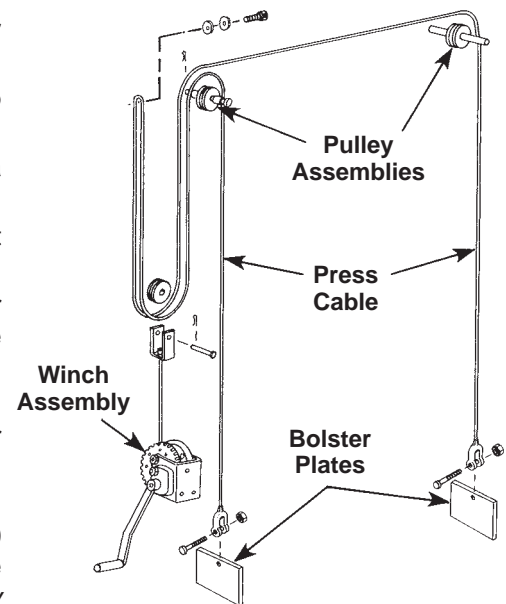

FIGURE 1
IMPORTANT: Make sure the cable attachment holes in the bolster plates are facing up. See Figure 1, to the right.
2. Attach a foot angle (13) to each press upright (10 and 23) using cap screws (20), washers (19), and hex nuts (8).
3. Attach the spacer angle (14) to the right-hand press upright (10) with a cap screw (20).
4. Slide the upright into the end of the bolster assembly (12) until the upright is tight against the bolster plate.
5. Slide the left-hand press upright (23) into the other end of the bolster assembly (12) until it is tight against the bolster plate. Then attach the upright to the angle spacer with a cap screw (20).
6. Mount one of the upper bolsters (1) to the top of each upright (10 and 23) using cap screws (7) and hex nuts (5). The holes for the cylinder mounting plate (11) must be facing down.
7. Install two pulley axles (4) and pulleys (3). The axles each pass through the exposed uppermost mounting hole in their respective upright (10 and 23). Before pushing each axle all the way through to the opposite mounting hole, slide a pulley (3) onto each axle. *Note: Once assembly of the press is complete, lubricate both axles using a general purpose grease.*
8. Mount the remaining upper bolster to the uprights using cap screws (7) and hex nuts (5).
9. Assemble a cap screw (2), two washers (24), and a nut (22) to the pulley bracket located at the top of the left-hand upright. To allow the cable to be installed later on, only hand thread the nut onto the screw a few turns at this time.
10. Attach the winch assembly (21) to the mounting plate on the left upright using cap screws (18) and hex nuts (22). Wrench tighten the mounting hardware.
11. Attach one end of the cable (7, sheet 2 of 2, back) to the bolster plate on the right end of the lower bolster (12) using a cap screw (2, sheet 2 of 2, back) and lock nut (1, sheet 2 of 2, back). Feed the other end of the cable through the pulley (3) and attach it to the left end of the lower bolster. Finish routing the cable as detailed in Figure 1 above.